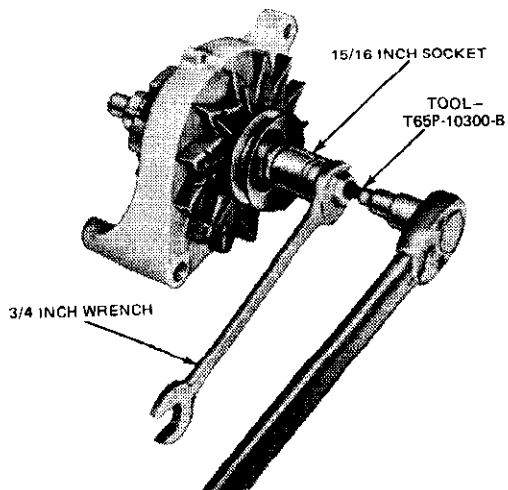

FIG. 7 Pulley Removal—Typical
- Remove the drive pulley nut with the tool shown in Fig. 7. Then, pull the lockwasher, pulley, fan, fan spacer, front housing and rotor stop from the rotor shaft.
5. Position the front housing, fan spacer, fan, pulley and lock washer on the rotor shaft and install the retaining nut. Tighten the retaining nut with the tool shown in Fig. 7 to the specified torque.